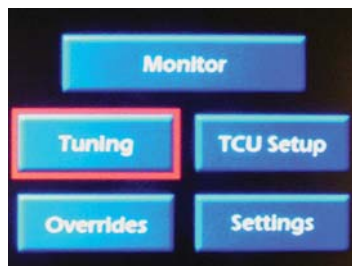

Figure 7
1. To alter, select "TUNING" using the "UP" and "DOWN" arrow buttons and press the "OK" button (**Figure 7**).